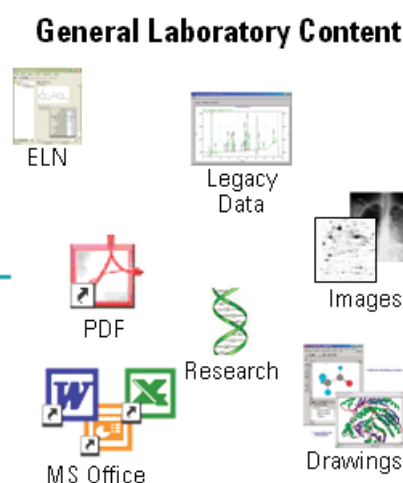

Figure 1. All data are securely stored in ECM.
instrument data, PDF reports, Microsoft (R) Office documents, or molecular drawings (Figure 1). Data and files in the system are automatically indexed, thus enabling users to quickly search for specific items and retrieve them in a meaningful context. Content within ECM is easily accessed with Microsoft Internet Explorer.